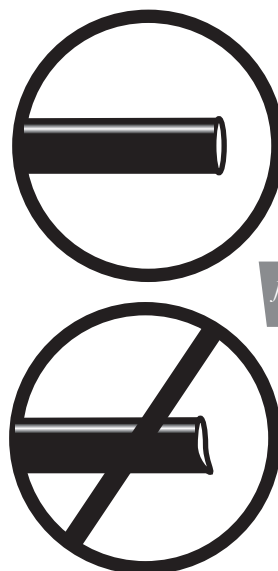

fig. 44
- a. Check the air line connection by deflating the spring and removing the line by pulling the collar against the fitting and pulling firmly on the air line. Trim 1" off the end of the air line. Be sure the cut is clean and square (see fig. 44). Reinsert the air line into the push-to-connect fitting.
2. If the preceding steps have not resolved the problem, call Air Lift customer service at (800) 248-0892.